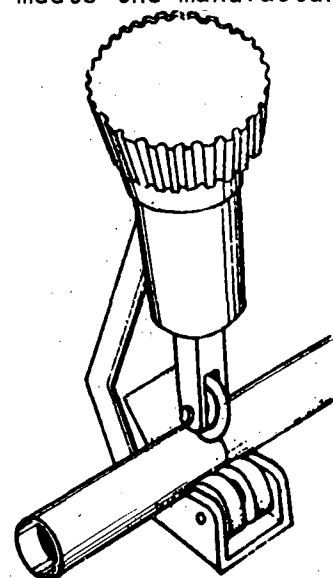

Fig. 1
- a) Place the cutter on the tubing (fig. 1).